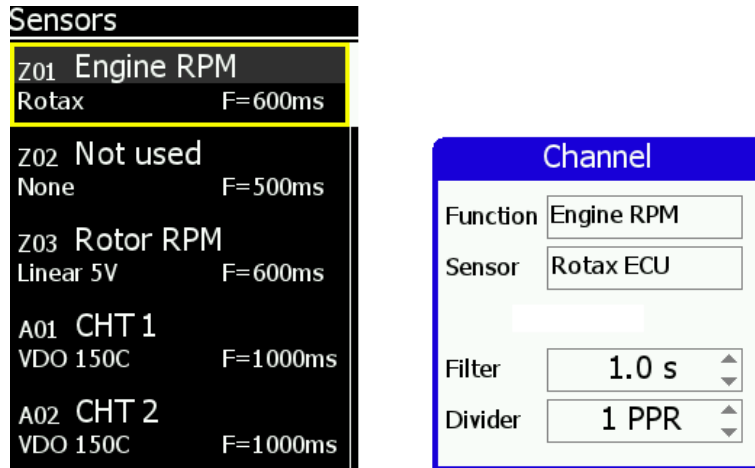

Figure 4: Emsis *Sensors* menu (left), Emsis *channel configuration* dialogue (right).
Emsis *Sensors* menu opens, see figure 4 (left). Configure sensors by repeating the following steps:
1. Select a channel to open configuration dialogue, see figure 4 (right).